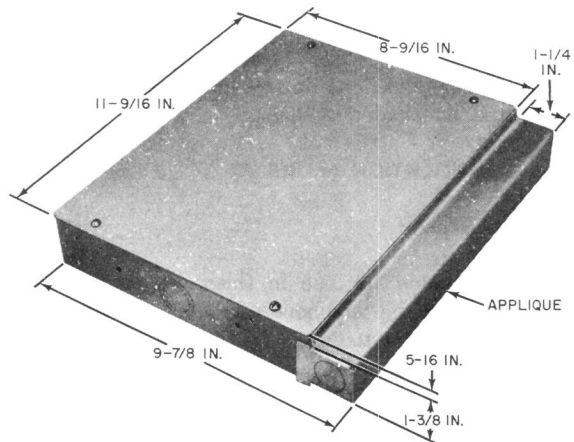

Fig. 1—113A Apparatus Box, MD
113A (MD) Apparatus Box (Fig. 1)